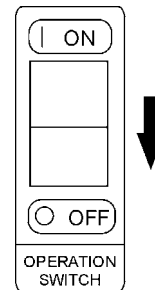

Figure 24. Generators On/Off Switch (Off)
- To shut-down the engine, place the generator's operation switch (Figure 24) in the **OFF** position.